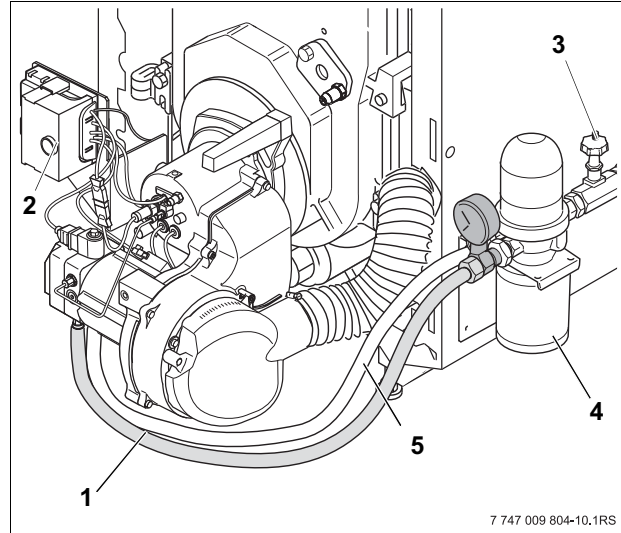

Fig. 8 Oil filter
- Remove the burner control unit (Fig. 8, **Item 2**) from its base.
- Check that the oil drawn in is free of air bubbles by observing the glass dome of the Tigerloop (Fig. 8, **Item 4**).
- Open the oil shutoff valve (Fig. 8, **Item 3**, page 16) on the oil filter.